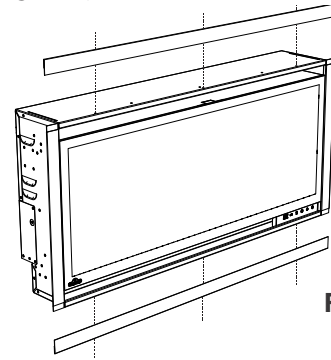

Fig. 2
2. Install top and bottom trims and secure with fasteners as shown (Figure 2).